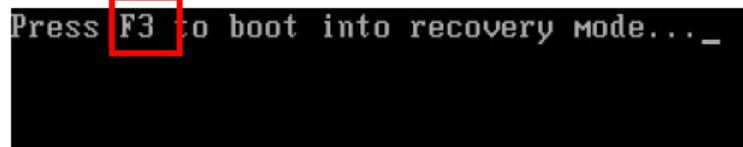

Figure B-7: Press F3 to Boot into Recovery Mode
Step 1: Turn on the system. When the following screen displays (Figure B-7), press the <F3> key to access the recovery tool. The message will display for 10 seconds, please press F3 before the system boots into the operating system.